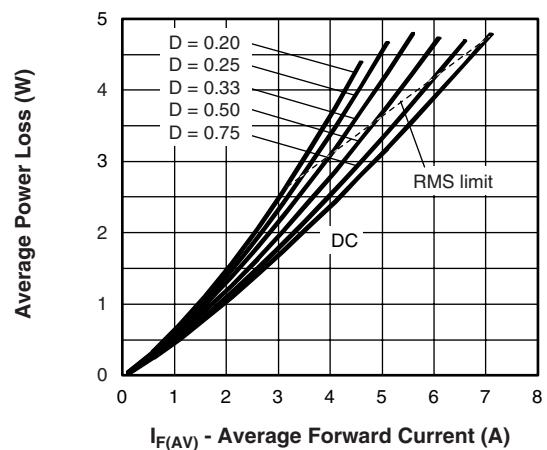

Fig. 6 - Forward Power Loss Characteristics (Per Leg)
- (1) Formula used: $T_C = T_J - (P_d + Pd_{REV}) \times R_{thJC}$
- $P_d = \text{Forward power loss} = I_{F(AV)} \times V_{FM} \text{ at } (I_{F(AV)}/D)$ (see fig. 6);